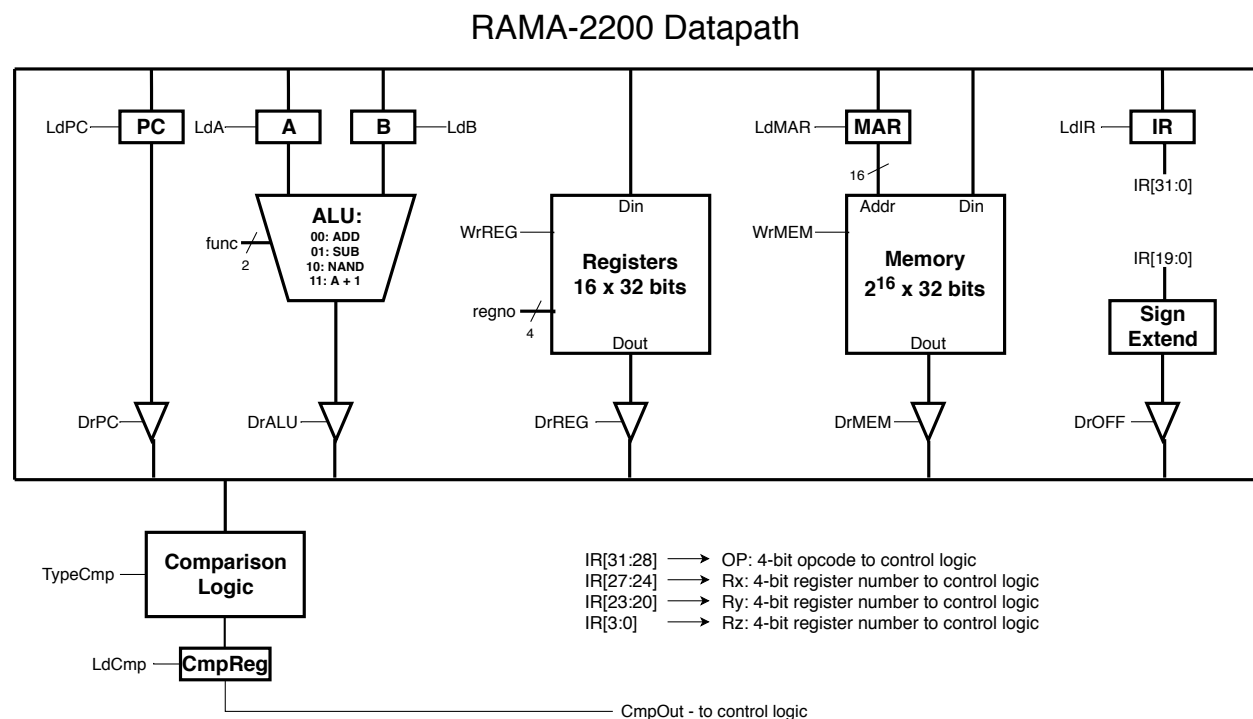

Figure 1: Datapath for the RAMA-2200 Processor
2. Using CircuitSim, implement the RAMA-2200 datapath. To do this, you will need to use the details of the RAMA-2200 datapath defined in Appendix A: RAMA-2200 Instruction Set Architecture. You should model your datapath on Figure 1.
The “comparison logic” box in Figure 1 is responsible for performing the comparison logic associated with the BEQ and BLT instructions. The comparison logic should read the current value on the bus. When executing BEQ or BLT, you should compute  $A - B$  using the ALU. While this result of the ALU is being driven on the bus, the comparison logic should read the result  $A - B$  and output a “true” or “false” value for either the condition  $A == B$  or  $A < B$  depending on the TypeCmp signal.
2. Implement the Microcontrol Unit using CircuitSim. The appendix contains all of the necessary information. Take note that the input and output signals on the schematics directly match the signals marked in the RAMA-2200 datapath schematic (see Figure 1).
4. Connect the completed control unit to the datapath you implemented in Phase 1. Using Figures 1 and 2, connect the control signals to their appropriate spots.